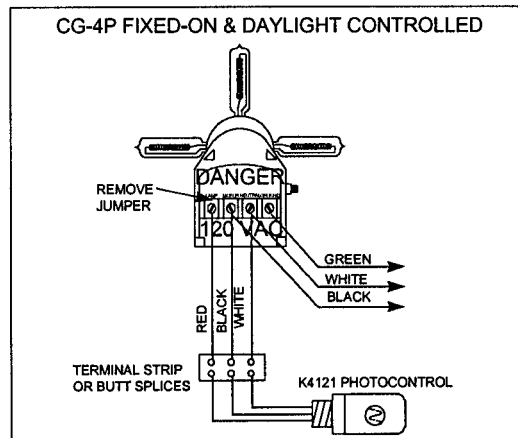

Figure 2-21
- k. If the light burns fixed-on and is daylight controlled use an Intermatic photocontrol, as shown in Figure 2-21. Leads must be extended and photocontrol must face away from lens or light from lamp will affect its operation.